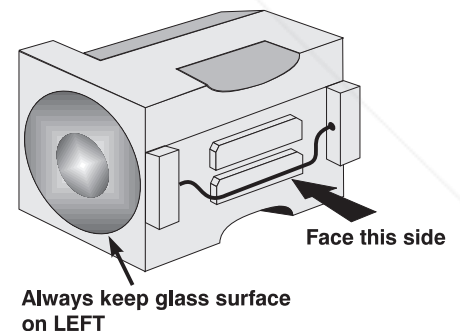

Figure 4.6. Lamp orientation
2. Place the lamp module on a stable worksurface, with the glass lens surface facing left as shown in Figure 4.6.
Hold the new lamp module with the wire handle facing you (the two brass nuts will be on the opposing side). Make sure that the glass lens surface is on your **left** — otherwise the unit will be upside down. See Figure 4.6